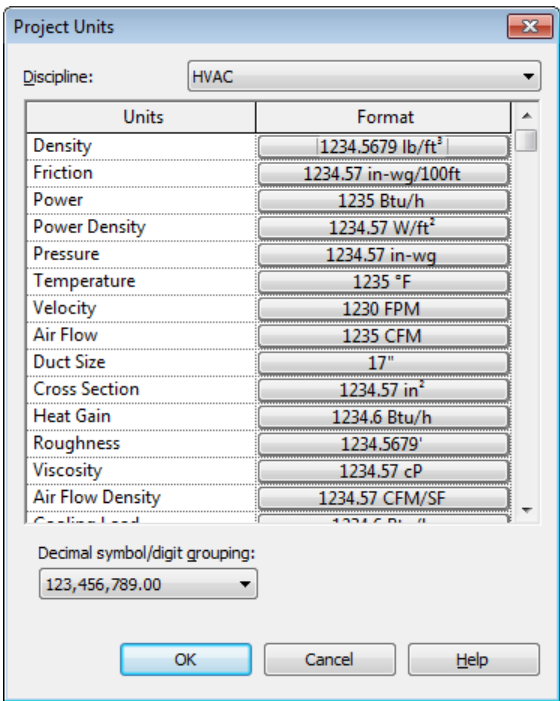

Figure 2-29 The **Project Units** dialog box
2. Project Units: Refer to Figure 2-29
- c. Specify the project units, refer to Figure 2-29.
- In the **Project Units** dialog box, select the **HVAC** option from the **Discipline** drop-down list; various units required in the HVAC workflow are displayed in a table located below the **Discipline** drop-down list, refer to Figure 2-29.